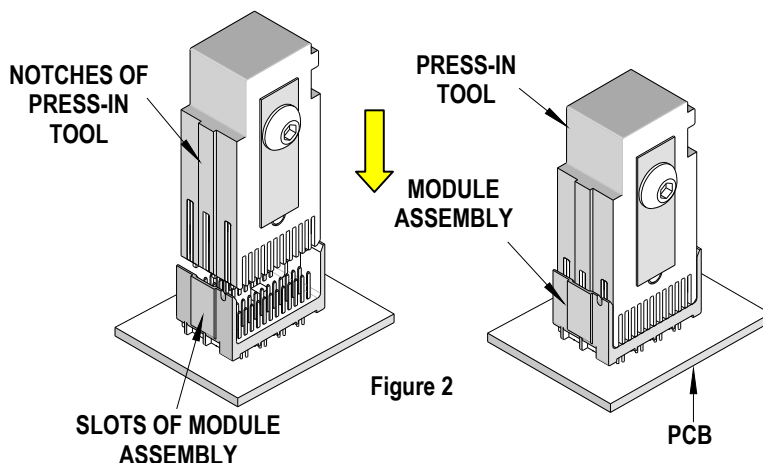

Figure 2
2. Insert the Press-In Tool making sure that the notch in this tool is inserted into the slot on the connector housing. See Figure 2.